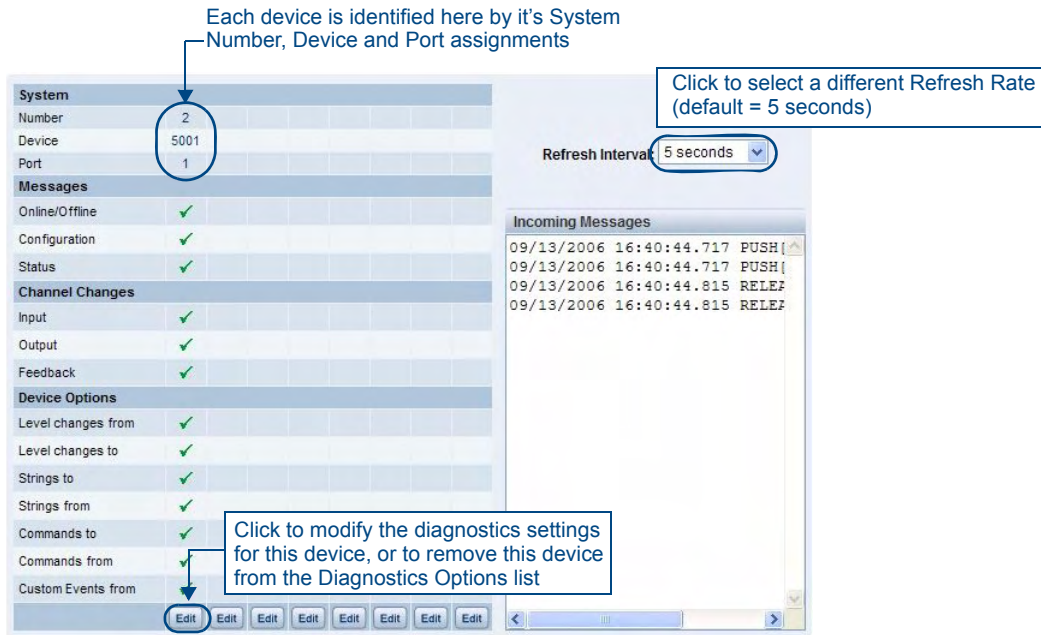

FIG. 7 Edit Options window
- The device that you just enabled diagnostics for appears in the Diagnostics Options page (identified by its Number, Device and Port assignments at the top of the Diagnostics Option list), with the currently enabled diagnostics indicated with a green checkmark (FIG. 7).